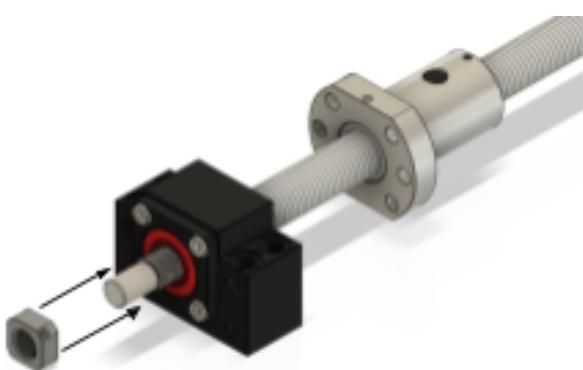

Figure 8.7
5. Screw the retainer nut onto the ball screw behind the BK12 as shown in Figure 8.7 and 8.8. Ensure it is securely tightened against the BK12.